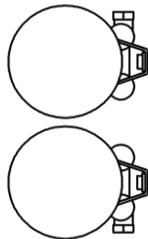

**FIGURE 1**
3. Unplug the (2) O2 sensors on the front and rear headpipes from motorcycle wire harnesses.
4. Remove the stock crossover headpipe support bracket by removing the (2) stock allen bolts located on the backside of the transmission pan underneath the motorcycle. Remove the 5/16 hex flange bolt that fastens the bracket to the exhaust pipe. Save all (3) bolts for later use but discard the bracket. See Figure 1 for location.
12. Install the supplied crossover support bracket to the stock mounting location, described in Step 4, using the (2) stock allen bolts removed in Step 4 and tighten. Adjust the crossover pipe assembly for and aft so the welded mount rests flush against the support bracket, then align the holes and fasten with the stock 5/16 hex flange bolt removed in Step 4. See Figure 1. Make sure the crossover pipe has clearance and does not make contact with the transmission pan; adjust as needed while bolts are loose.
13. Reinstall the mufflers onto the crossover pipe assembly using the stock muffler clamps. Reinsert the (2) stock 5/16-inch bolts into each rear muffler mount. **Do not tighten** clamps or bolts.
14. Tighten the 5/16 hex bolt and (2) allen bolts on the crossover support bracket, then fully tighten the flange nuts on the exhaust port studs, followed by the 3/8" carriage bolt and nut on the front headpipe support clamp. Next fully tighten the (2) 27-61MSC clamps.